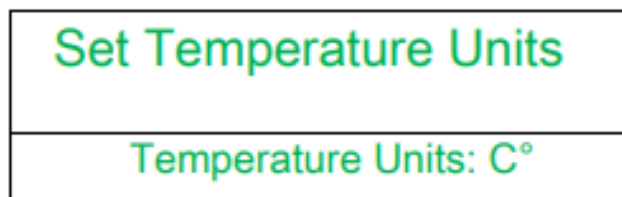

Figure 25: Set Temperature Units Menu
2. Using the "Scroll Down" key, move down to Option 3 "Set Temperature Units" and press "Enter". This will take you into the "Set Temperature Units" screen. **See Figure 25**